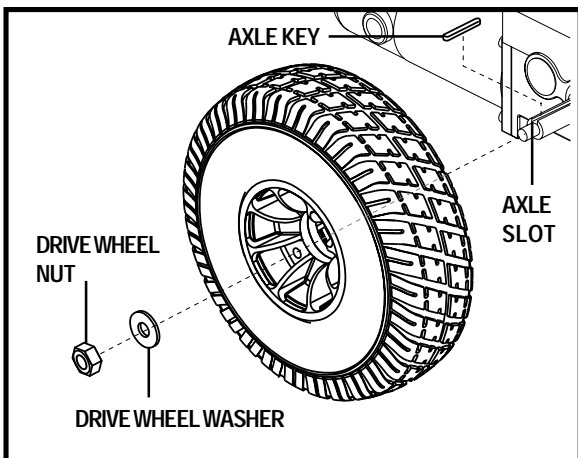

Figure 37. Quantum 1107 Drive Wheel
4. Remove the drive wheel nut and washer from the axle. See figure 37.